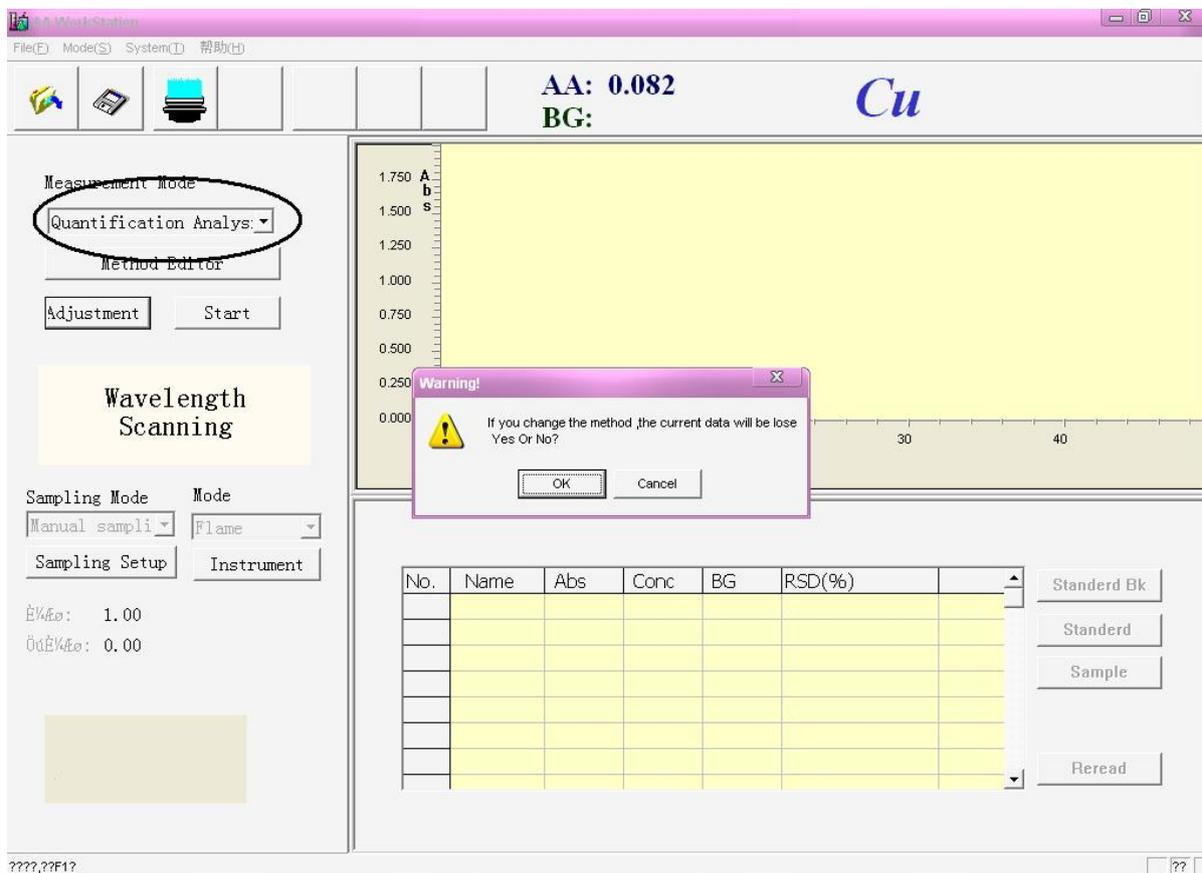

Figure 5-20
4. Figure 5-20, select the "quantification analysis" from the "Measurement Mode"